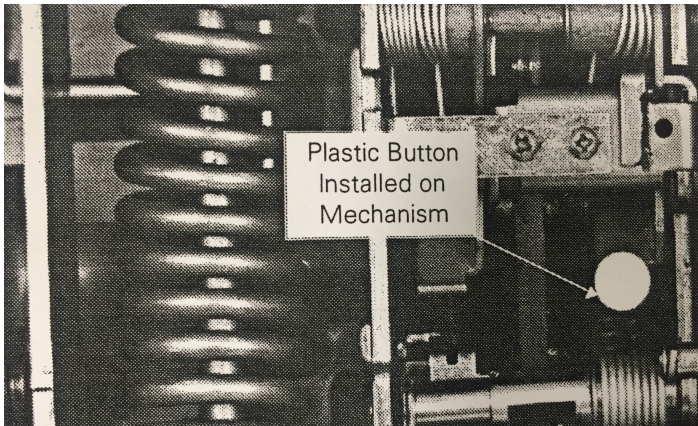

Figure 3 Plastic button installed on the breaker mechanism.
4. Slide the slot on the white plastic button, supplied in the Hidden On Button kit, over the tab on the lever that closes the breaker, as shown in Figure 3. Push the button to the limit of the lever's travel to ensure a tight fit.